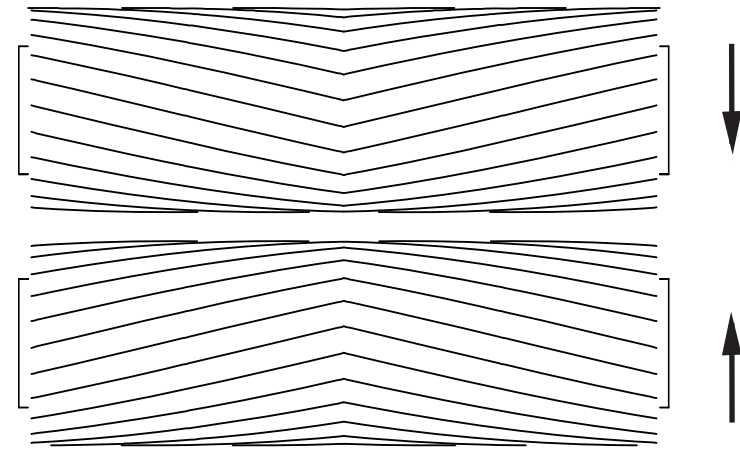

Fig. 6: Scrub Brush pattern
8. Slide the new or rotated scrub brush into the scrub deck. Insure that the V-shaped bristle patterns on the brushes are pointing toward each other as viewed from above. (See Fig. 6)